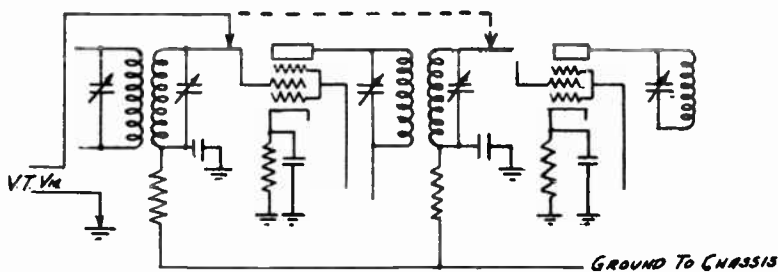

Figure 25
- 5.26—The a.v.c. tube should be removed from the receiver or, if this is not possible, the a.v.c. lead should be grounded to the chassis. See Figure 25. If neither of these operations can be carried out, then the d.c. blocking connector should be used.